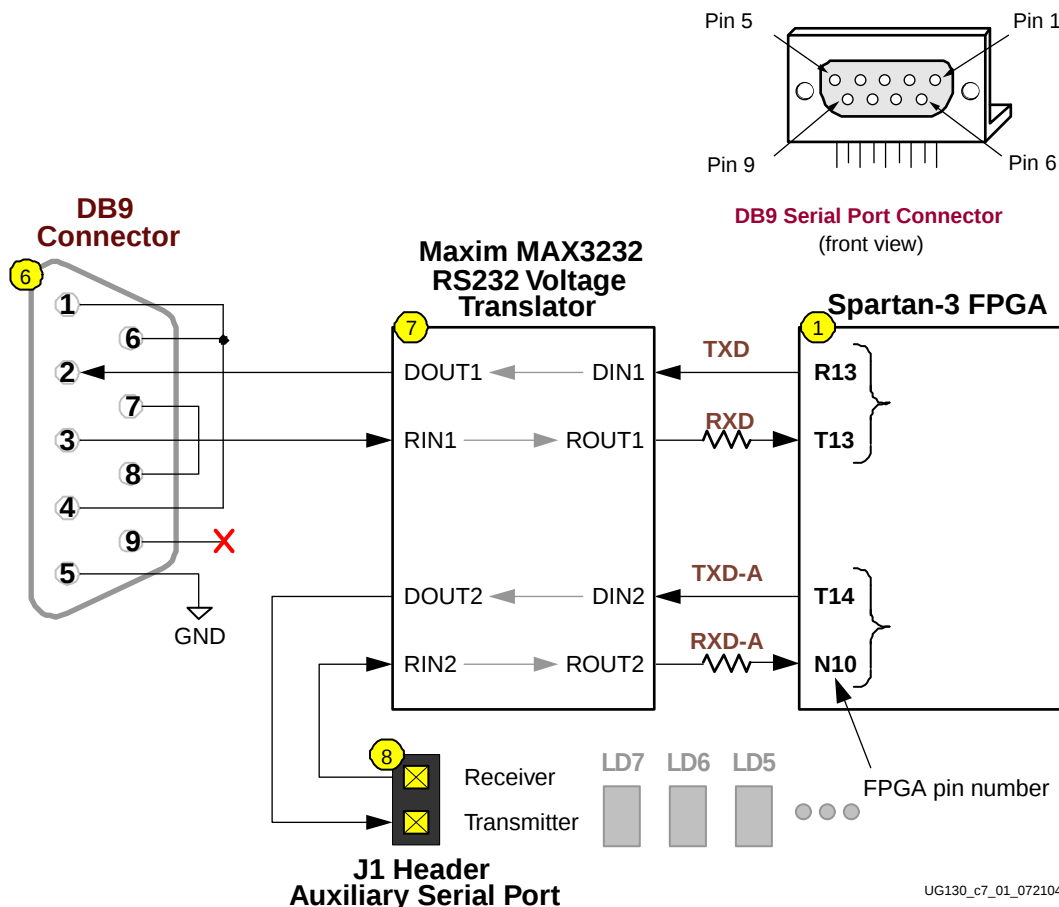

Figure 7-1: RS-232 Serial Port
Figure 7-1 shows the connection between the FPGA and the DB9 connector, including the Maxim MAX3232 RS-232 voltage converter, indicated as ⑦ in Figure 1-2. The FPGA supplies serial output data as LVTTTL or LVCMOS levels to the Maxim device, which in
Hardware flow control is not supported on the connector. The port's DCD, DTR, and DSR signals connect together, as shown in Figure 7-1. Similarly, the port's RTS and CTS signals connect together.